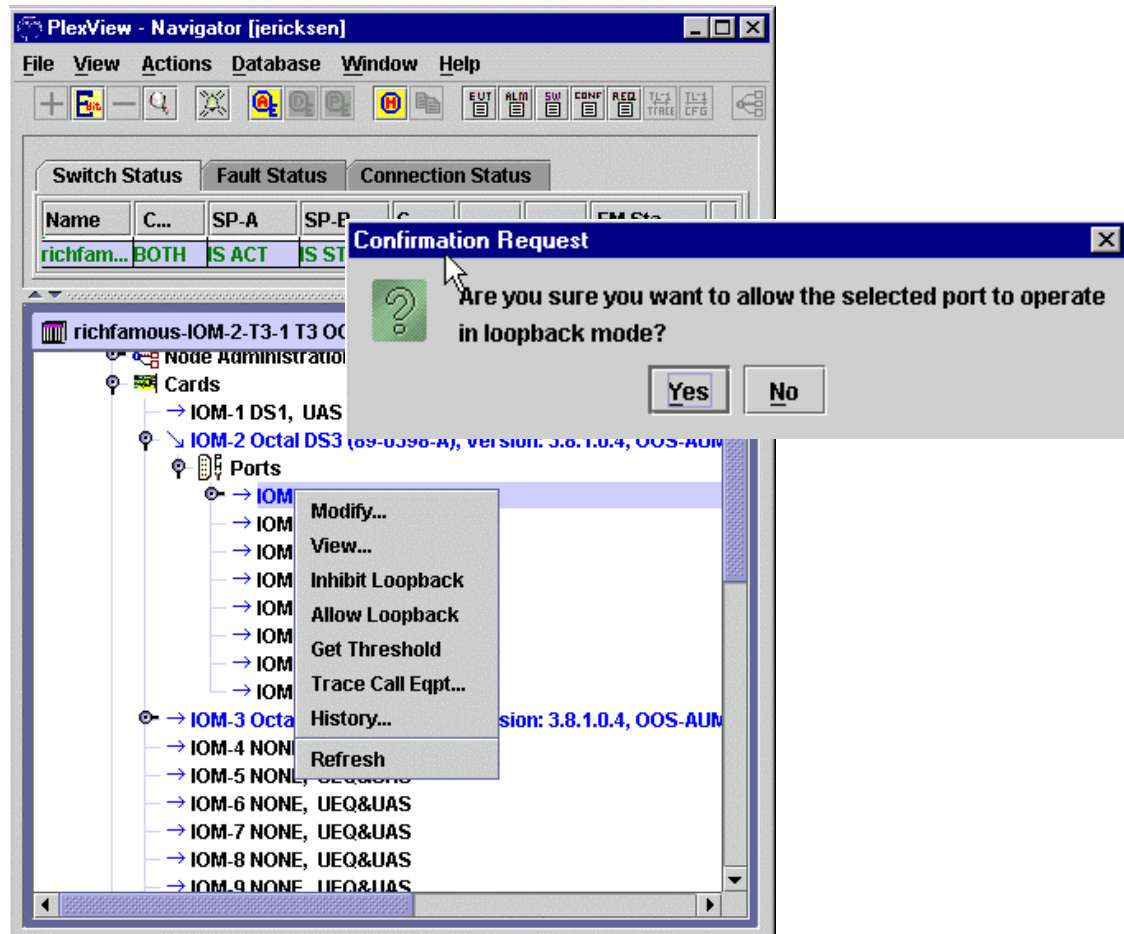

Figure 2. Allowing T3 Loopbacks
6. Allow a port of the Plexus 9000 to respond to a remote T3 loopback request. Double-click the switch to select it for the main panel and then right-click the switch name. Click *Cards*, desired *IOM* and *Ports*. Right-click the desired port and select *Allow Loopback*. Click Yes in displayed frame to allow loopbacks. See Figure 2.